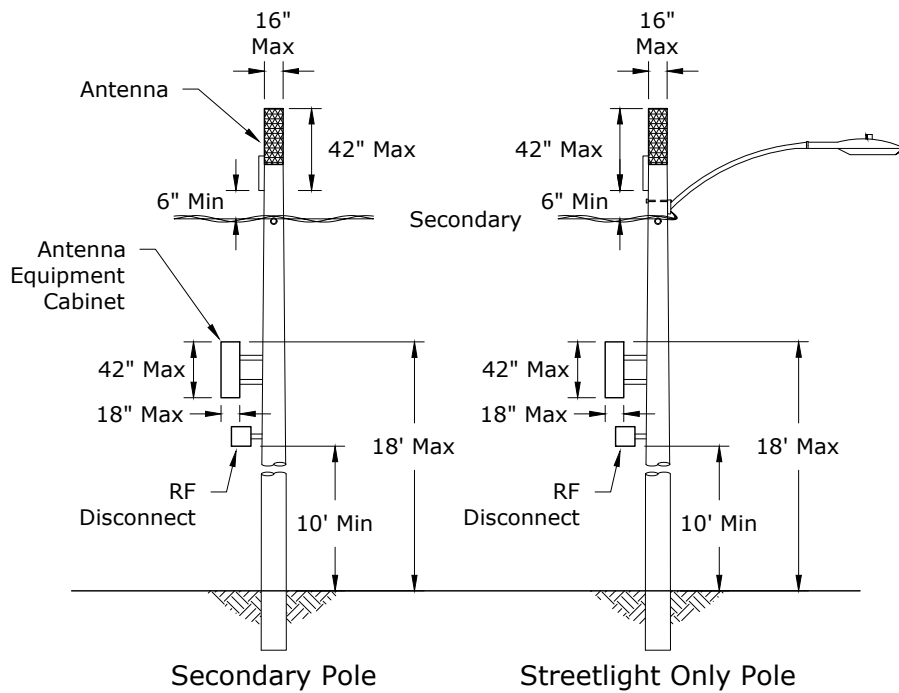
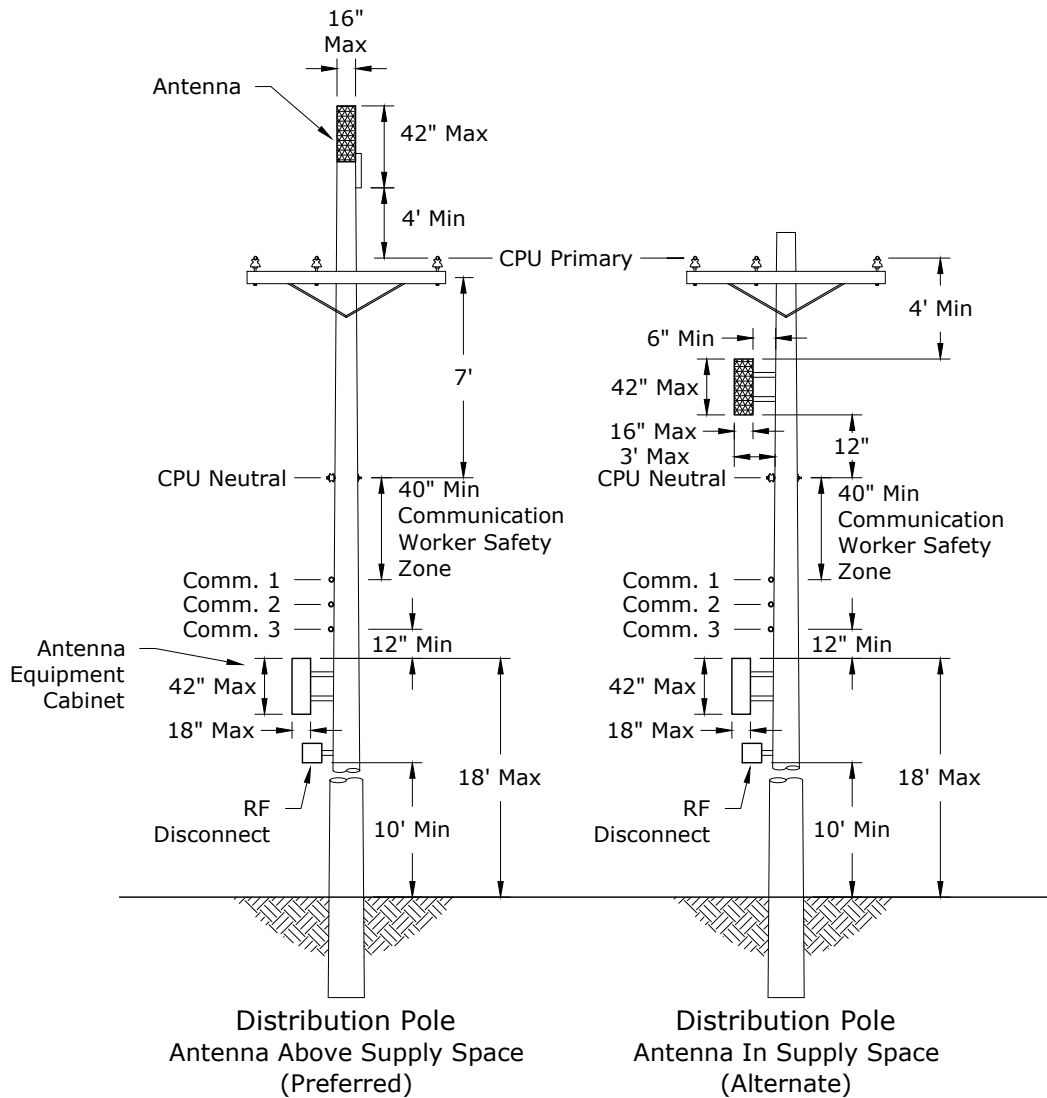

Figure 4: Small cell antenna installation clearances on secondary poles.
Figure 5: Small cell antenna installations in the supply space.
- E. For installations in the supply space see Figure 4 and Figure 5. The existing pole may need to be replaced with a taller or stronger pole. Pole-top extensions will not be allowed.